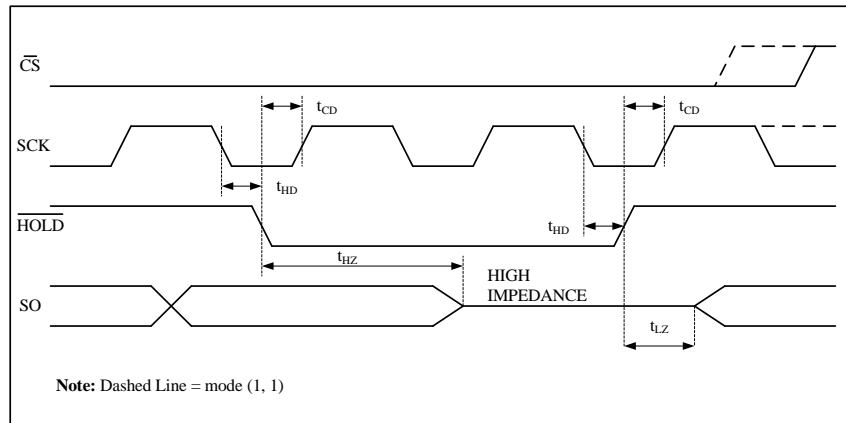

Figure 13
The $\overline{\text{HOLD}}$ input can be used to pause communication between host and 25M02. To pause, $\overline{\text{HOLD}}$ must be taken low while SCK is low (Figure 13). During the hold condition the device must remain selected ($\overline{\text{CS}}$ low). During the pause, the data output pin (SO) is tri-stated (high impedance) and SI transitions are ignored. To resume communication, $\overline{\text{HOLD}}$ must be taken high while SCK is low.